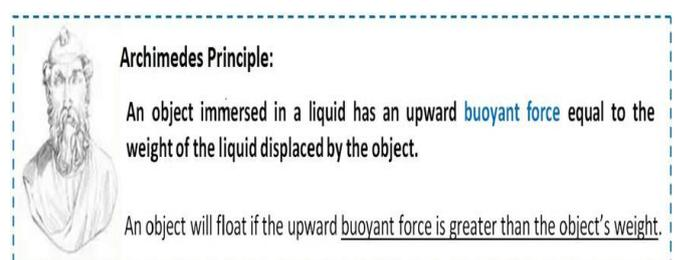

Figure 3: Archimedes Principle.
Tidal horizontal force (HF) (and with others external any kind of wind forces) on a floating object can be opposed by anchor it properly (by using minimum four horizontal/ long-distance anchors) so that the vertical force (VF) remain almost same, as Figure 5. This vertical force (VF) is useful and it can be very much useful as easily increase this vertical force (VF) by increasing the size of the object. This bidirectional vertical force (VF) is very much suitable for pumping purpose (Figure 3)[1].